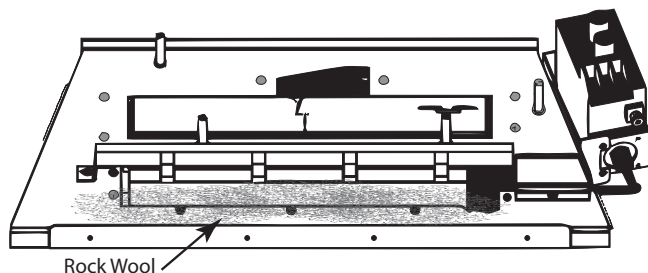

Figure 6.19 - Install Rock Wool
1. Before installing logs, place rock wool in front of the grate. Loosely apply nickel size pieces to allow the gas to flow through for proper burn and not to be obstructed. Failure to do so would cause a higher level of CARBON MONOXIDE. See Figure 6.19.